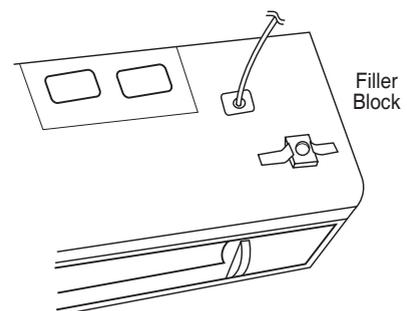

Figure 28
- Align filler blocks over the two openings in the top of the microwave oven cabinet and attach to the cabinet with masking tape. See Figure 28.